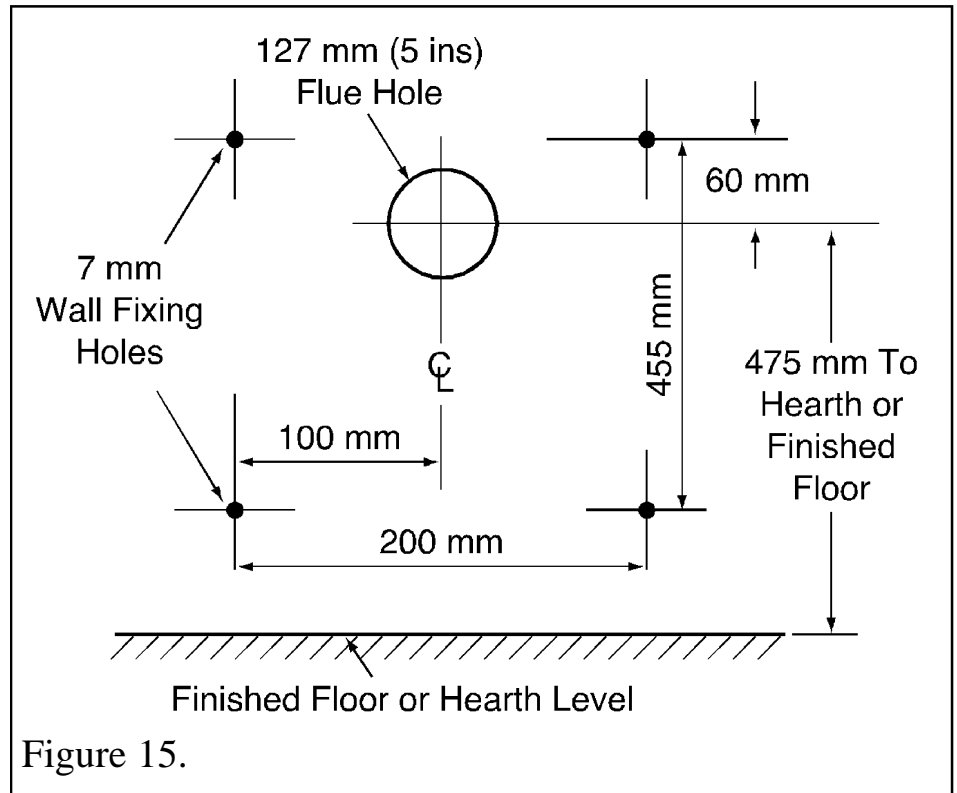

Figure 15.
2. Before cutting the hole in the wall make sure that the height to the top surface of the finished floor is known. The height from this surface to the flue hole centre is shown in figure 15.
5. Make sure that the centre of the flue hole is as shown in figure 15.
1. Working from the centre of the flue hole, mark up four holes as shown in figure 15.